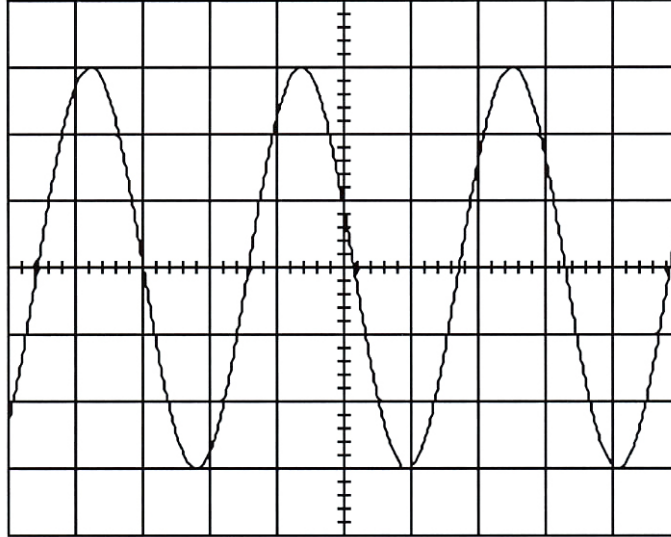

Figure 1-2. Oscilloscope Display
- For the scope display shown in Figure 1-2, determine the voltages required in Table 1-1. Record your answers on the Prep Sheet as well.